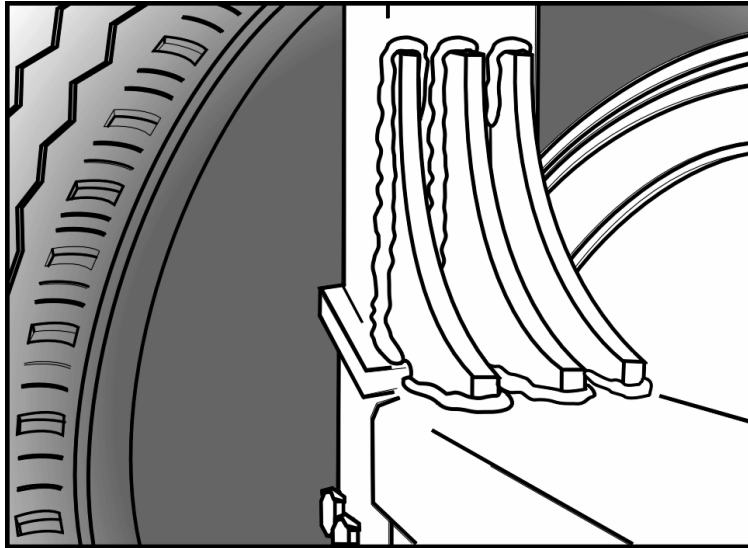

FIGURE 6
5. Repeat preceding steps 3 and 4 for the installation of second new reinforcement #171738 (figure 6).